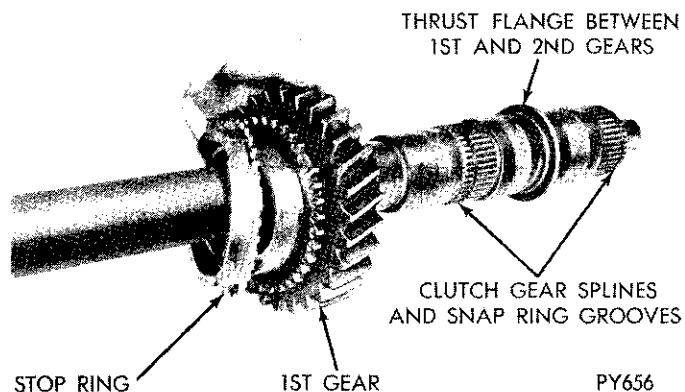

Fig. 23—1st Gear and Stop Ring—Removal or Installation
(10) Remove 1st gear and its stop ring from mainshaft (Fig. 23).
- (14) Slide 1st gear and stop ring over rear end of mainshaft and against flange which separates 1st and 2nd gears (Fig. 23).